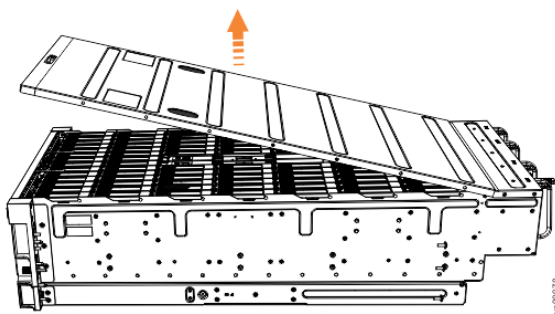

Figure 25. Removing the 5U expansion enclosure cover
3. Carefully lift the cover up, as shown in Figure 25 on page 42.